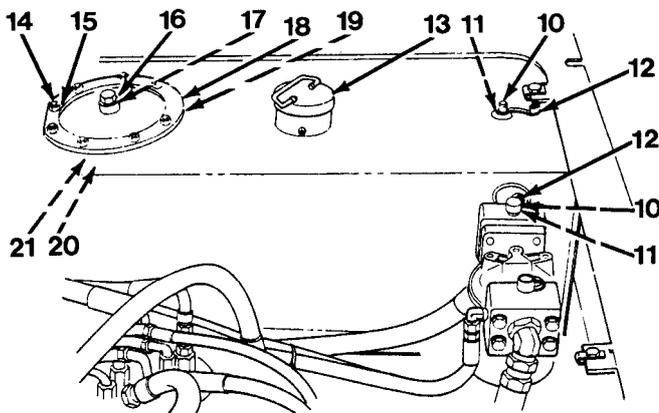

Figure 13-3
1. Remove two disconnect nipples (10), O-rings (11) and dust caps (12, Figure 13-3).
2. Remove dipstick cap (13).
3. Remove eight nuts (14), washers (15), plug (16), O-ring (17), cover (18), O-ring (19), filter (20) and O-ring (21) from reservoir.
1. Install O-ring (21) and filter (20) in reservoir (Figure 13-3).
2. Install O-ring (19), cover (18), O-ring (17), plug (16), eight washers (15) and nuts (14) on reservoir.
3. Install dipstick cap (13), two dust caps (12), O-rings (11) and disconnect nipples (10).